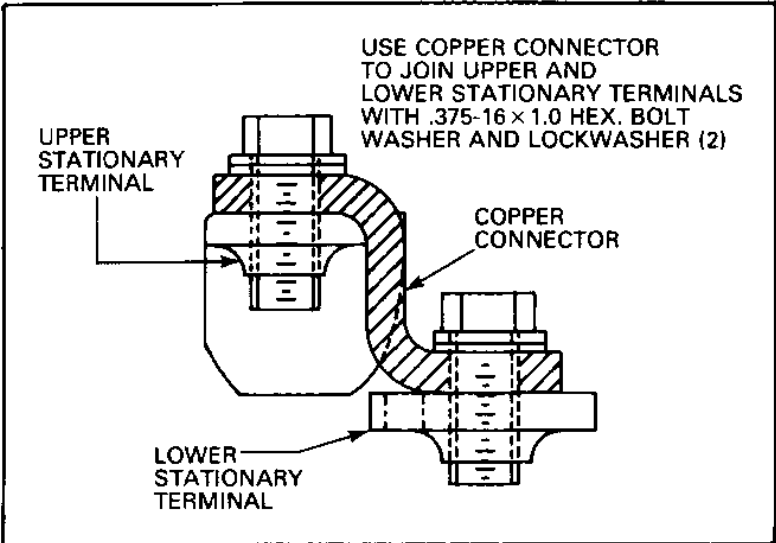

Fig. 4 Connecting Upper and Lower Stationary Terminals
5. Review the illustrations to acquaint yourself with the items and location, especially the right and front side view of the breaker Figs. 4, 5, 6 and 7.
1. Remove the three (3) electro-mechanical trip units.
2. Place the 2.0" x 2.38" x .25" "Z" copper connector over top of the upper stationary and lower stationary terminals, lining up the holes. Secure connector using .375-16 x 1.0 hex bolt, washer and lockwasher. See Fig. 4.
Step 5: Position the $\frac{1}{2}$ " x $1\frac{5}{8}$ " spacer beneath the holes under the actuator. Slide the control relay over so that the holes match those of the spacer. Fasten the actuator, spacer and control relay with the .190 - 32 x 1 field screws and washers. Figs. 4 and 5.